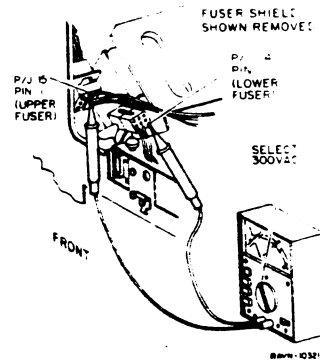

Figure 4. Measuring the Line Voltage
5. PREPARE TO MEASURE LINE VOLTAGE (FIGURE 4).